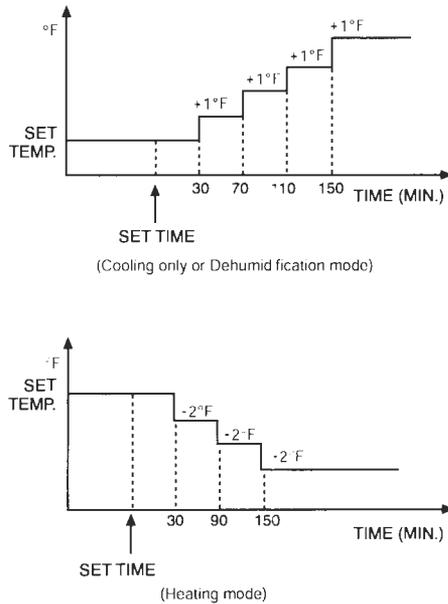

Fig. 10 — Set Temperature Levels
4. When the SLEEP timer is set, the unit will control the set temperature to avoid overcooling or overheating during operation. The set temperature will change as in Fig. 10.